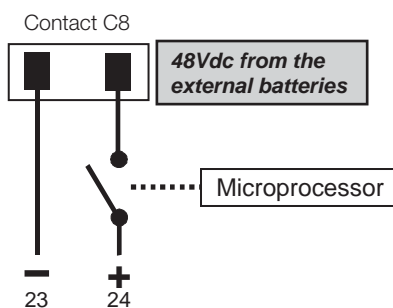

Figure 5 — ATS Layout
**ATS (C8):** When the Alpha FXM is in the Inverter mode, this normally open relay closes sending 48 Vdc (FXM 650-48, 1100, 2000) or 24 Vdc (FXM 650-24) from the external batteries to this dry contact (Figure 5). If the optional Alpha Off-Line Automatic Transfer Switch (ATS) is connected, it will cause the ATS to switch the load from line power to the Alpha FXM battery backup power.